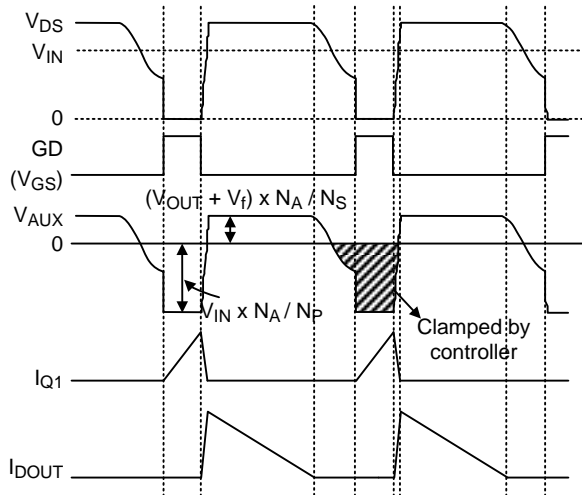

Figure 3. Key Waveforms of a Flyback Converter
RT7311B needs no shunt regulator and opto-coupler at the secondary side to achieve the output current regulation. Figure 3 shows several key waveforms of a conventional flyback converter in Quasi-Resonant (QR) mode, in which  $V_{AUX}$  is the voltage on the auxiliary winding of the transformer.